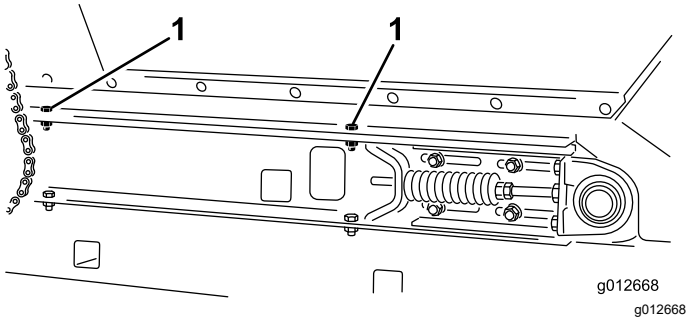

**Figure 36**
- At the right side of machine, tighten 2 capscrews that secure slider-frame rail to the right fender (Figure 36).